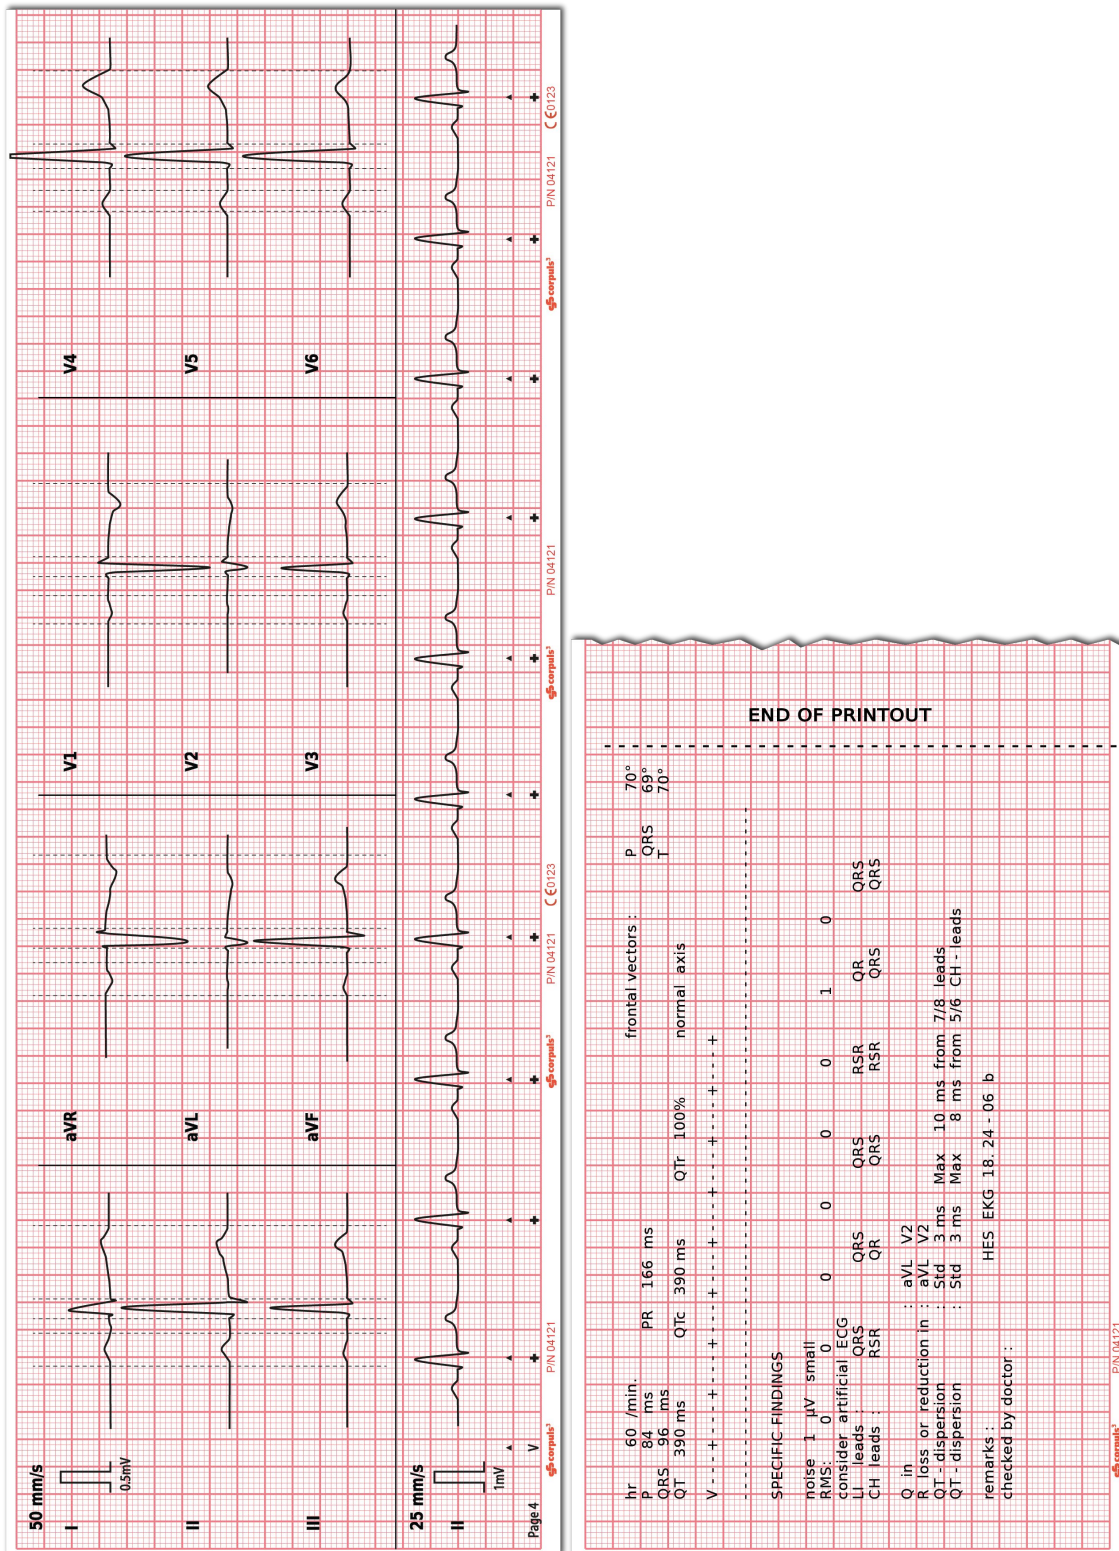

Fig. 6-13 D-ECG printout of the representative cycle with Glasgow Full Scale (optional) (illustration may differ)
For the plausibility check of the conclusions about the rhythm and as an aid for the quality check, the ECG measurement/interpretation program HES® issues a rhythm- and typing diagram that represents the cycle sequence of the ECG complexes in an abbreviated form (see page 121, Fig. 6-13, item 1).